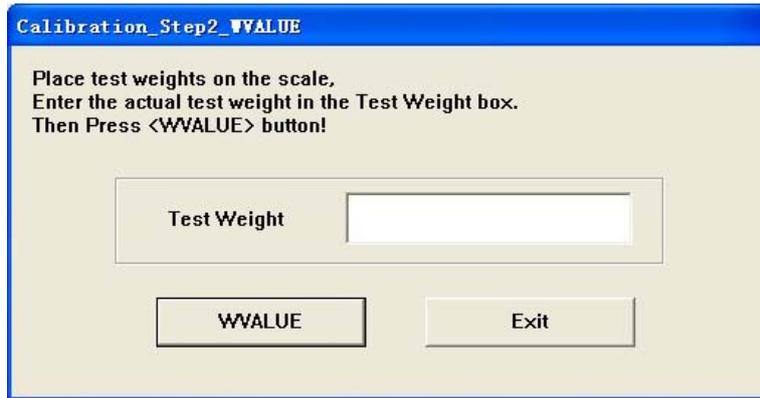

Figure 3-2 "WVALUE" Dialog
(1) If the test weights do not require hooks or chains, remove all weight from the scale platform.
(2) If the test weights require hooks or chains, place the hooks or chains on the scale.
- Click “WZERO” to start zero, then "WVALUE" dialog pop-up when zero process finished. (see figure 3-2)